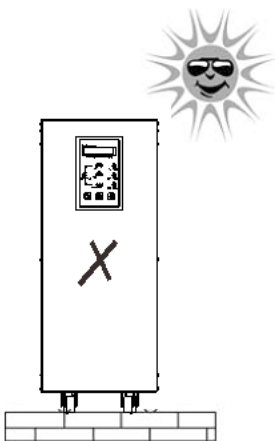

Figure6
3. Do not install the UPS in direct sunlight, rain or damp areas. (Figure 6, 7)